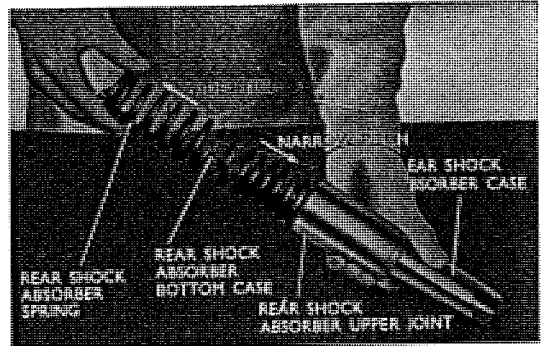

Fig. 4.68 Coupling rear cushion
1. Couple the rear cushion spring and upper case, push up the upper case, and install with the spring seat limit. (Refer to Fig. 4.68)